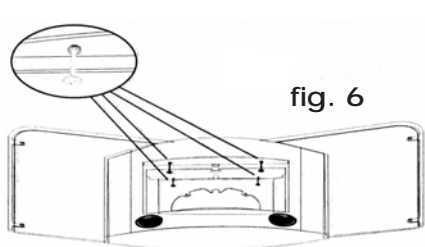

fig. 6
- Dismantle the cover by removing the screws (fig. 6). - over the page